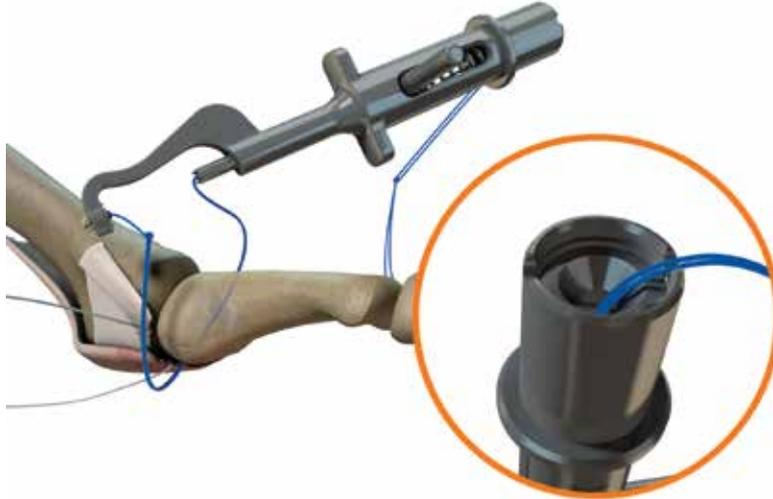

Figure 17: Remove the phalangeal drill guide from the joint space
5. Place the sutures in the groove on the proximal face of the drill guide (Figure 17).
6. Retract the T-Handle and gently rock the guide out of the joint space. Do not pull the suture when removing the drill guide (Figure 17).